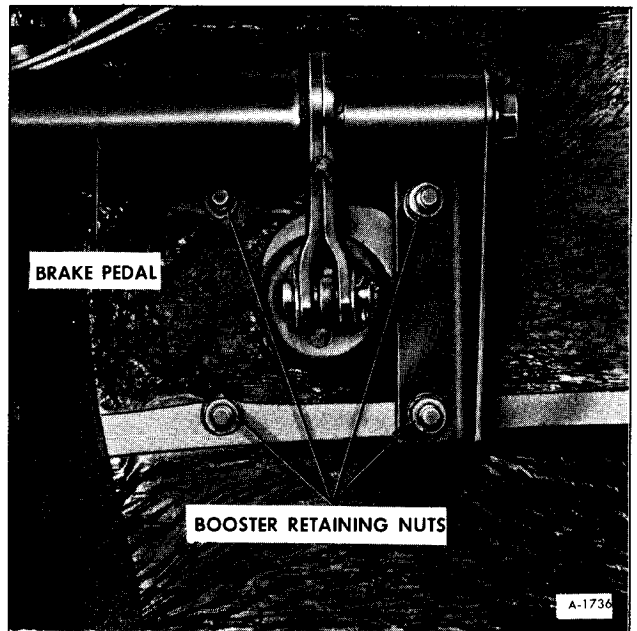

Figure 22—Booster Assembly Retaining Nuts
7. Remove four nuts retaining booster assembly to firewall, as shown in Figure 22.